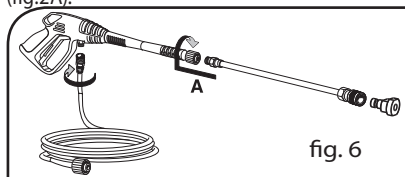

fig. 6
2. Connect the high pressure hose to the spray gun. Insert the spray wand of your choice into the wand extension. Press in against the spring tension and twist into the locked position (fig. 6). Insert the nozzle (fig.2A).